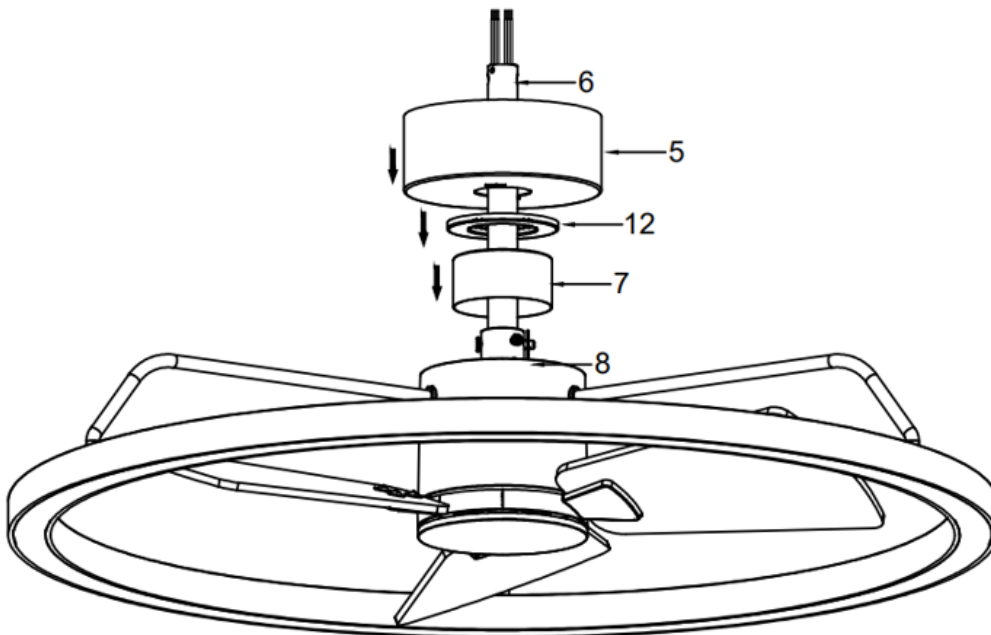
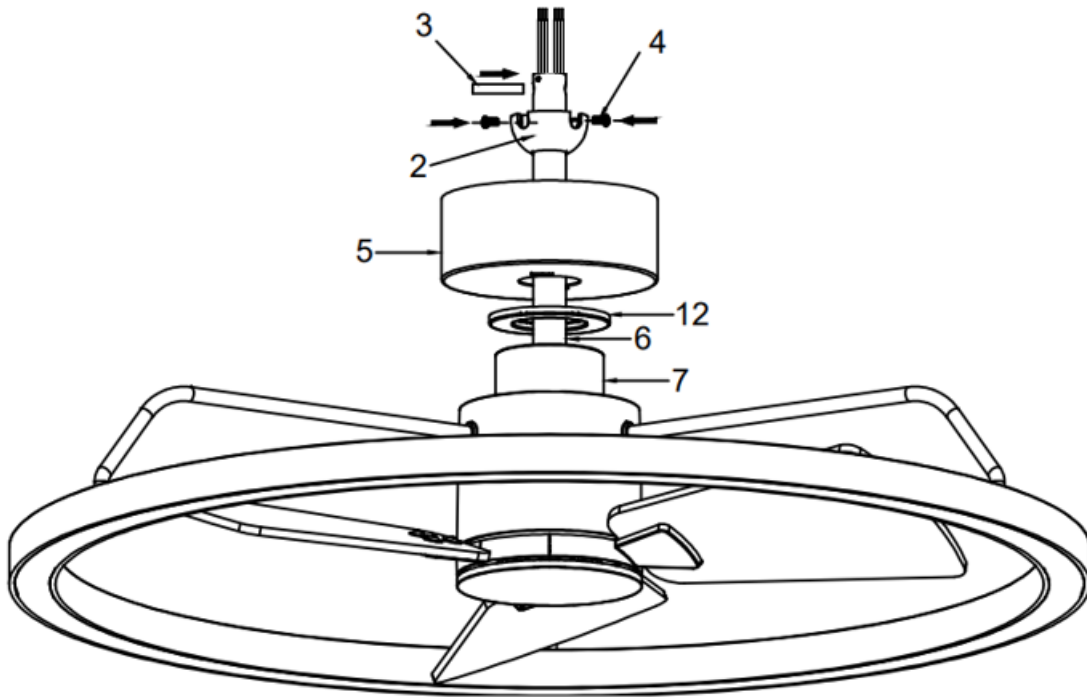

Fig. 6.5
Fig. 6.6
6. Insert the coupler cover (7) onto the down rod (6) to cover the coupler (8). (Fig. 6.5)
7. Insert the canopy (5) & canopy cover (12) over the down rod (6) and install the hanger ball (2) and dowel pin (3) back onto the down rod (6) and secure by tightening the set screws (4). (Fig. 6.5 and Fig. 6.6)